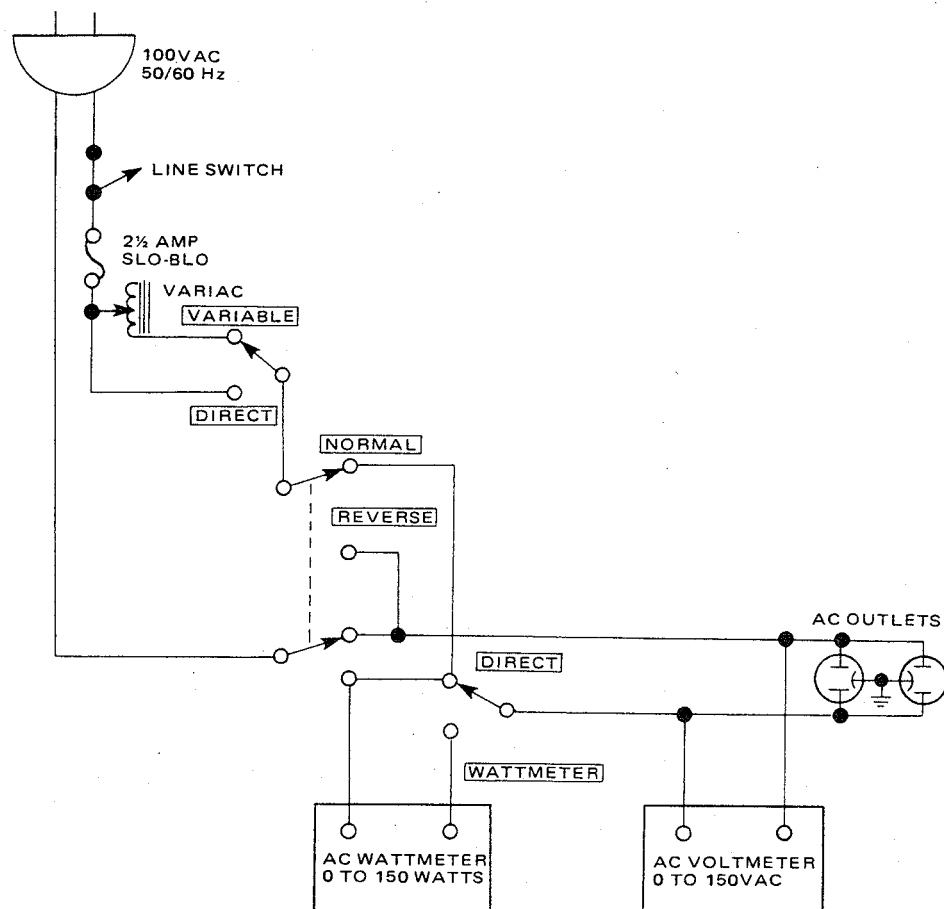
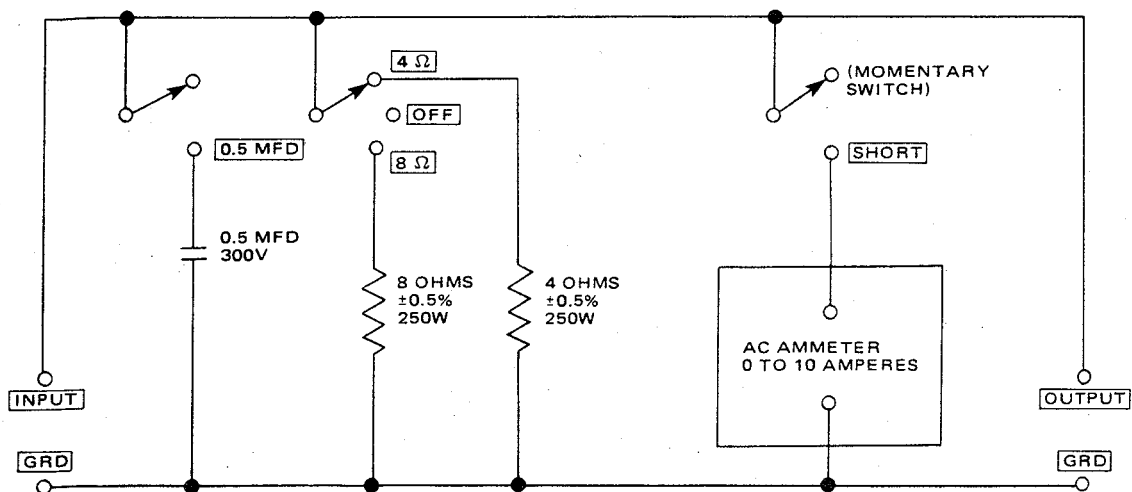

Figure1. AC Power Control Box Simplified Schematic
FIGURE 2. Amplifier Output Load Box Simplified Schematic
Table 1 lists the test equipment required for servicing the Model PM420 Stereo Console Amplifier. The wattmeter, AC voltmeter, and variable autotransformer may be assembled as a test fixture as shown schematically in Figure 1. The load resistors and AC ammeter may be assembled into a second test fixture as shown in Figure 2.
1. Make the test setup shown in Figure 1 with the instrument controls set in the following positions: